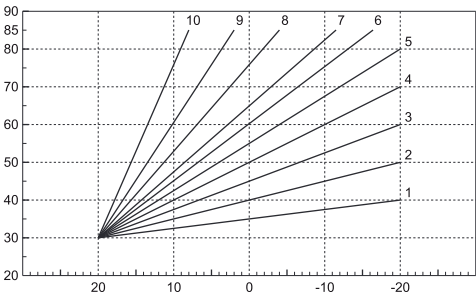

fig. 24 - Compensation curves
- **Curves:** select this item and use "+" and "-" DHW side () to per select the required curve from 1 to 10. By setting the curve to 0, the sliding temperature adjustment is disabled (see fig. 24 - Compensation curves).